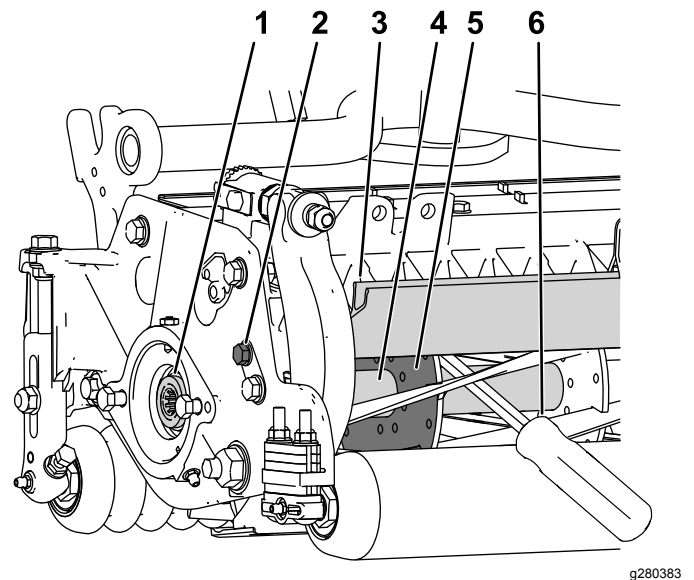

Figure 37
1. Loosen the shield-bolt on the left side of the cutting unit and raise the rear shield (Figure 37).
2. Insert a long-handled pry bar (recommended 3/8" x 12" with screwdriver handle) through the back of the cutting reel, closest to the side of the cutting unit that you will be torquing (Figure 37).
3. Place the pry bar against the weld side of the reel support plate (Figure 37).